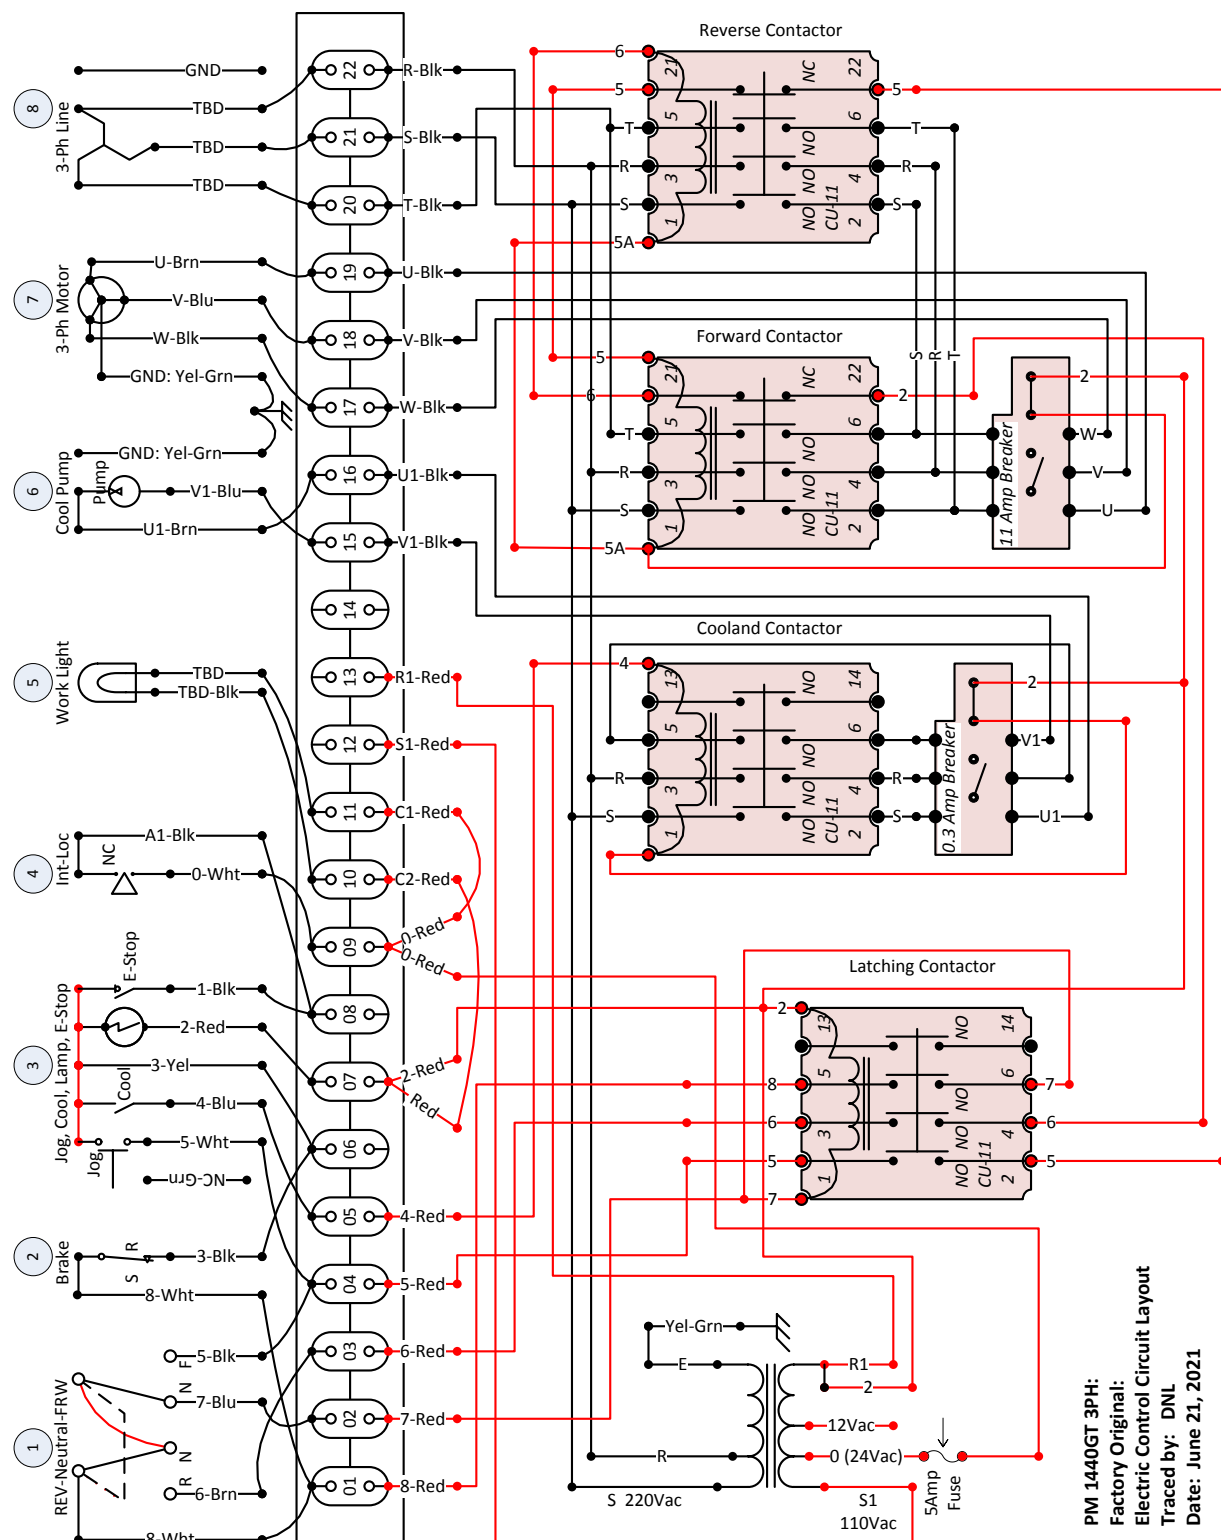
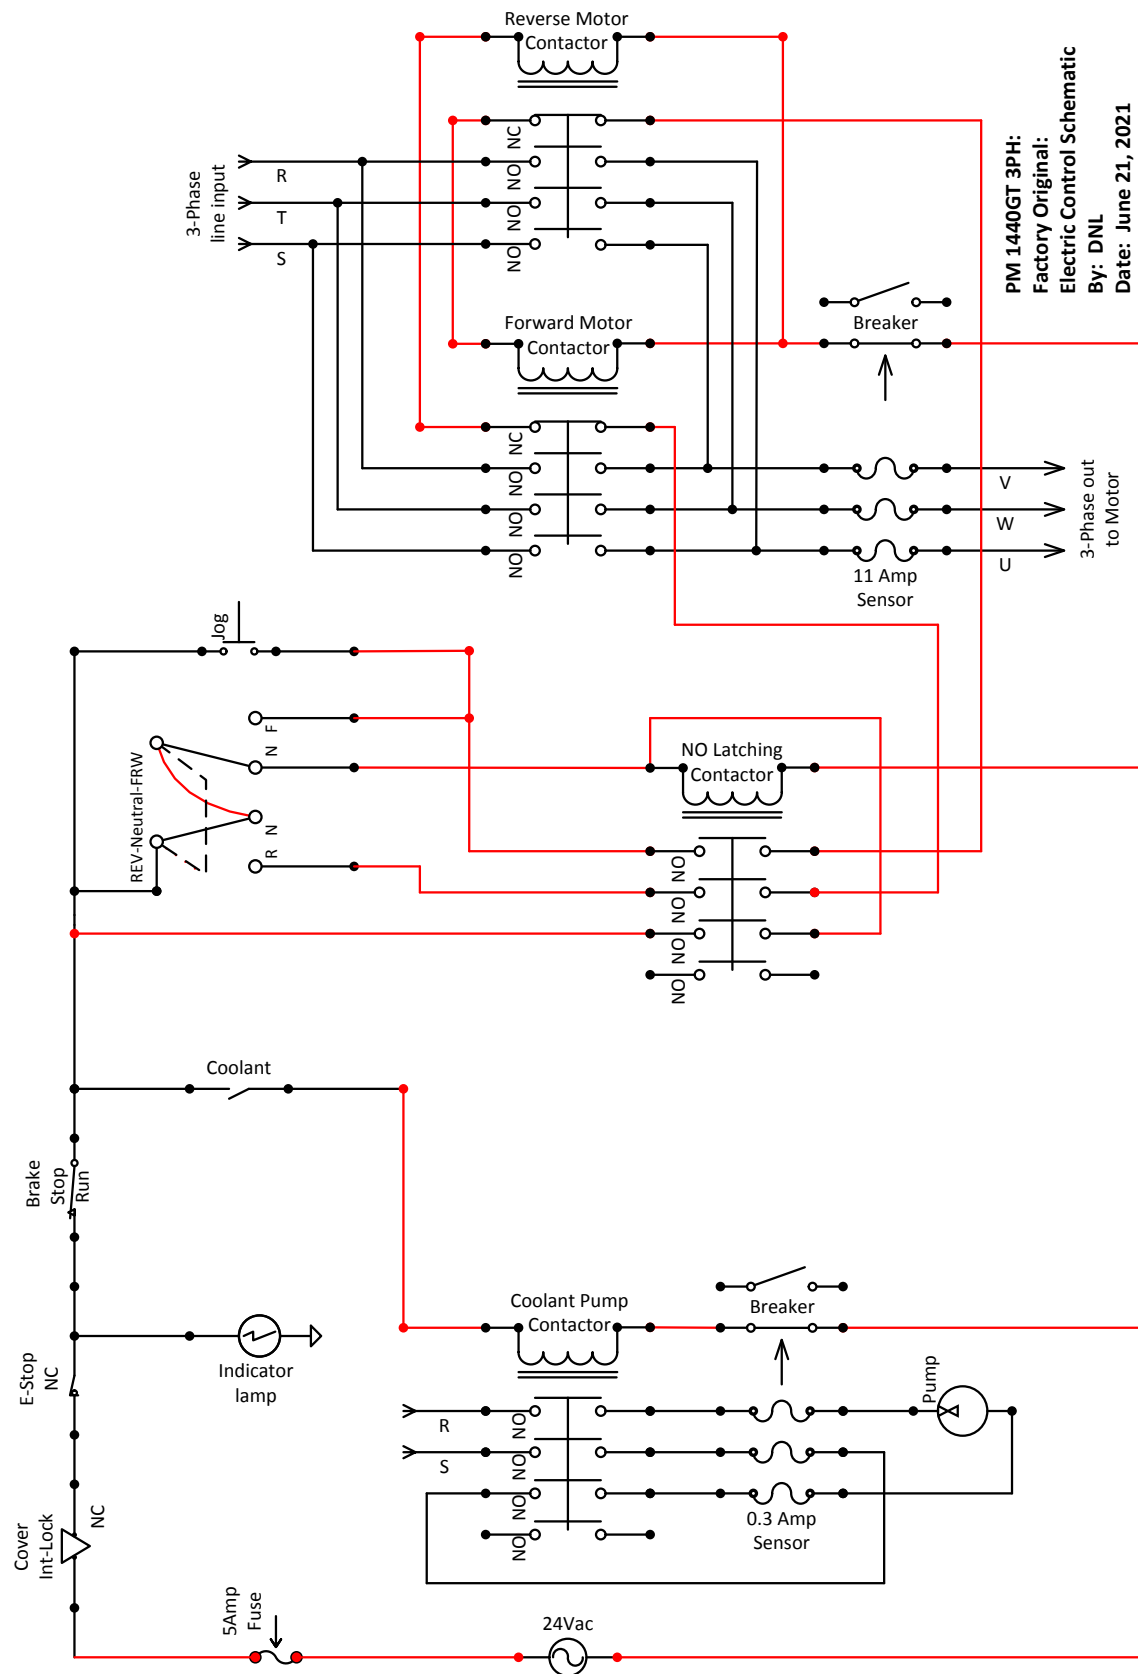

Figure 1 (Part 1) Factory Original PM1440GT: Control Electronics physical layout with wiring traced.
Figure 2 (Part 1) Factory Original PM1440GT: Control Electronics schematic.
To enable one to understand the operation there Figures 1 and 2 are provided. Figure 1 is labeled “Electric Control Circuit Layout” and Figure 2 is labeled “Electric Control Schematic.” The Figure 1 is provided to allow one to do a direct comparison to the physical location of the components to Photo 1, while Figure 2, the schematic, provides a logical drawing of the circuits to allow one to understand the overall operation easier. In this the schematic the lathe’s front panel switches and other external connections are shown explicitly as they are connected to allow for minimal circuit tracing. The only difference between the actual Photo 3 and Figure 1 is to illustrate how to connect the 24Vac connection of the work light via screw terminals 10 and 11. However, it was not connected in the lathe when delivered.
At the left and top of Figure 2, one sees the 24Vac supply and its associated 5Amp fuse, which carries current to the series connected Cover-Interlock switch (the moving parts, spindle gears and motor belt are inside this cover), the Emergency-Stop (E-Stop) switch (front panel), and the Mechanical (Foot) Break switch (lathe stand end enclosure). These are all normally closed switches and if any of them are actuated then current ceases along this line and the motor power is removed. The front panel power indicator light goes out if the interlock or the E-Stop break the circuit, but does not if the foot break is actuated. (Caution: Just because this light is off, the power at the control electronics and many other parts of the lathe is still hot.) If all three of these switches remains closed power is supplied to the Coolant switch (front panel) and so if closed, current can flow through the Coolant pump relay coil to the breaker and on to the Coolant pump. This relay’s four contacts are normally open (NO), but close upon excitation and then provide 220Vac (one side of the three phase power) via wires R-S to the pump motor. The breaker for the pump motor must break both the R and S feeds and so this relay has three contacts. However, the left most of these contacts provides the same current as that flowing through the S wire. Hence, all three current sensors of this three line breaker are active (only two wires carry current to the pump motor). The sensors are set at ~0.3Amp to trip the breaker. Should more than 0.3Amps flow to the pump motor the sensors activate the breaker to shut the pump power off. If the motor were stalled, prevented from turning or had difficulty getting started, then the current could exceed the ~0.3Amp limit. (This might happen, especially during startup, if something, like lots of debris or coolant that was very viscous, were in the coolant reservoir to prevent the pump motor from turning or starting up quickly.) Also note that the left pair of contacts of the relay is unused as is one of the pair of contacts for the breaker.
Focusing on the center of Figure 2, one sees the “Self-Latching Relay” (Latching Relay) and above it in the drawing is shown the Reverse-Neutral-Forward switch (Photo 6), which is at the tail stock end of the lathe and is composed of two DPDT (Double-Pole-Double-Throw) switches, which are mechanically connected to the front lathe 3-position lever in such a manner to generate only three positions, one incoming and three outgoing connections. There is only one connection made for each of the three positions of the front lever. These components are supplied with the 24Vac power. When this switch is in the Neutral position it supplies current from the 24Vac supply to the Latching Relay’s excitation coil which then causes closer of its four normally open contacts. The left most connected contacts of this relay carries the 24Vac current back to the excitation coil input, which causes the relay to remain latched even if current is removed by the 3-position lever being moved from the Neutral position to the Reverse or Forward positions. However, should the lever be in either
- g. Figure 1 Original Control Electronics Physical Layout
- h. Figure 2 Original Control Electronics Schematic